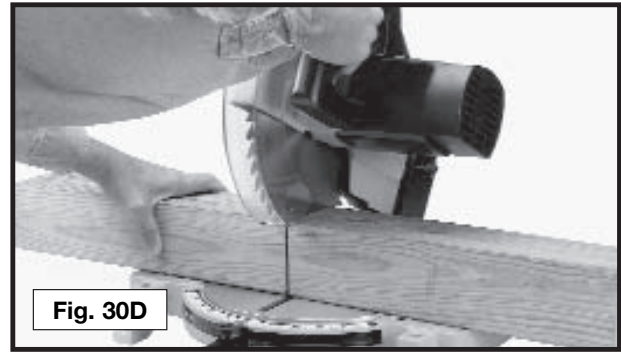

Fig. 30D
3. Cutting a standard 4 x 4 can be accomplished with one pass (Fig. 30D).